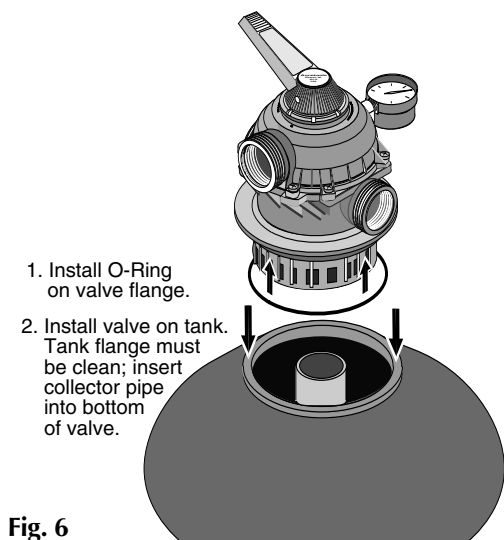

Fig. 6
See Figures 6, 7, and 8
4. To reinstall valve, follow instructions, Figures 6 and 7, Page 7. BE SURE to follow clamp tightening instructions.